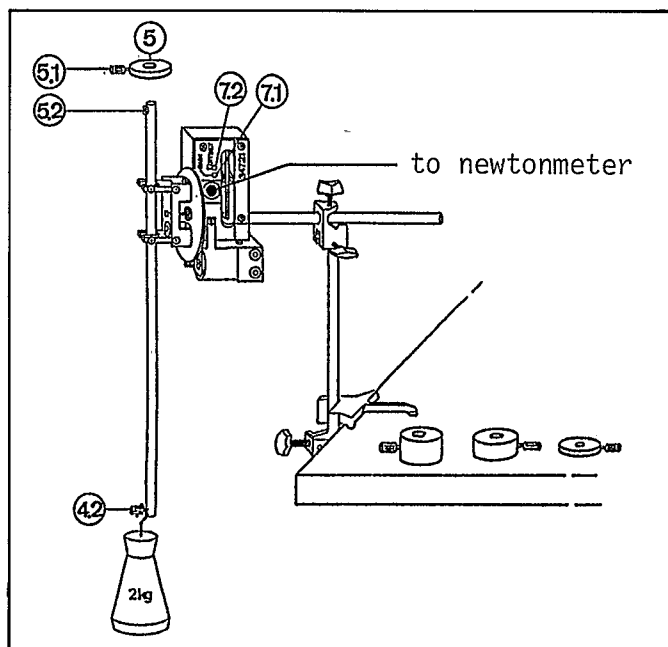

Fig. 2
Required in addition (see Fig. 2):
- Fit centrifugal force instrument as shown in Fig. 2.
- Loosen the securing screws (5.2); slide test specimen or balancing weight (5) onto the rotary arm and re-fix the screw (5.2); Horizontally align the rotary arm and set its balance position by shifting the balancing weight (5); then tighten screw (5.1).
Force F as a function of mass m for various radii r with constant angle velocity ω (m - F paired values from Fig. 2).